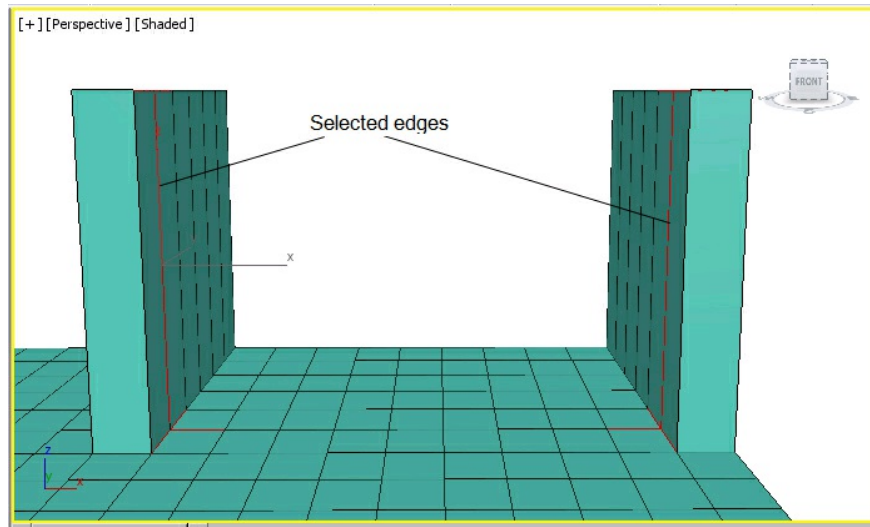

Figure 9-75 Selected edges of the extruded part
3. Select the **Edge** sub-object level and then select two edges from the extruded part, as shown in Figure 9-75.